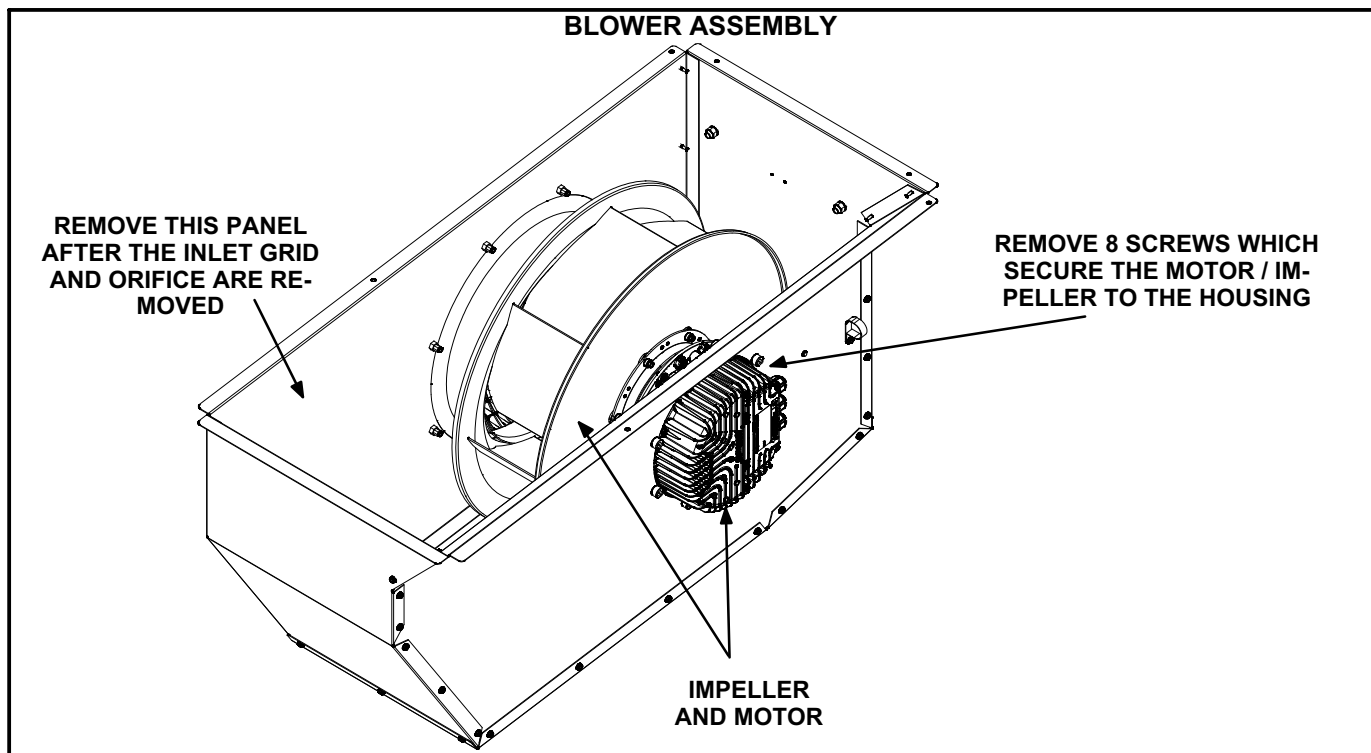

FIGURE 6
- 8- Turn the blower assembly upside down. See figure 6.
- 11- Remove the motor / impeller secured to the housing. See figures 6 and 7.